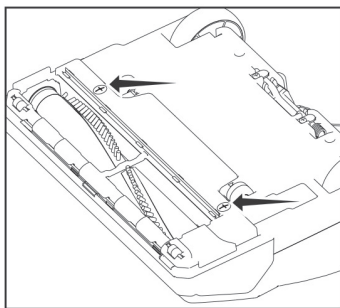

Fig. 1
3. Turn the two screws a quarter turn to release the bottom plate (Fig. 1). Remove the bottom plate.